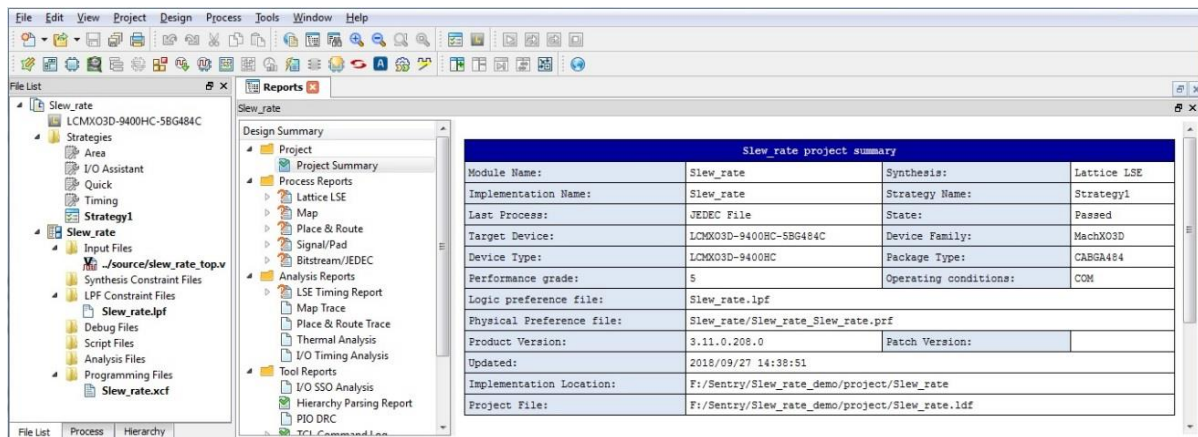
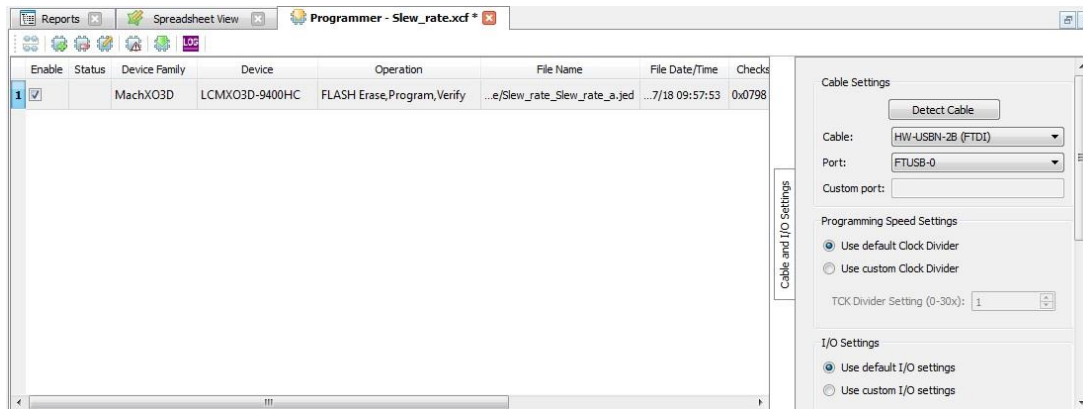
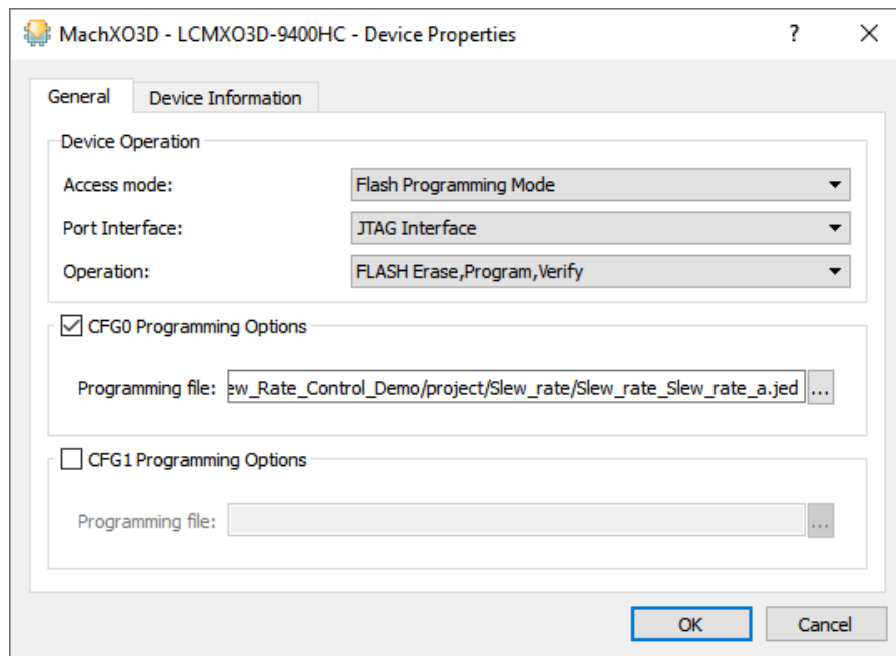

Figure 4.1. Open the Slew Rate Control Demo Project
Figure 4.5. Embedded Programmer in the Demo Project
Figure 4.6. Set Device Properties for Programing CFG0
2. Select **File > Open > Project...**. Browse to find and open **slew_rate.ldf** from the downloaded demo package folder. The Slew Rate Control Demo design is opened as shown in Figure 4.1.
2. In the Diamond main interface, from the **File List** tab (Figure 4.1), double-click **Slew_rate.xcf**. This XCF file for programming CFG0 is opened in the embedded **Programmer**, as shown in Figure 4.5.
- Select to highlight the only file information row (Figure 4.5). You can now see file information clearly. Double-click **Slew_rate_Slew_rate_a.jed** from the **File Name** column (Figure 4.5). The **Device Properties** dialog box is opened as shown in Figure 4.6.
- Note that at this phase you may not be able to operate the *.jed file because of the different demo package installation directory. To make the *.jed file work, in **CFG0 Programming Options** (Figure 4.6), click the ... button to re-appoint to **Slew_rate_Slew_rate_a.jed**.
- Click **OK** (Figure 4.6), and return to embedded Programmer **Slew_rate.xcf** interface as shown in Figure 4.5.
- Click the **Program** button () from the toolbar (Figure 4.5) to download bitstream to CFG0 with embedded Programmer.
4. In the embedded Programmer interface of **Slew_rate.xcf** (Figure 4.5), click the **Program** button (🔧) to download new generated bitstream file to CFG0.